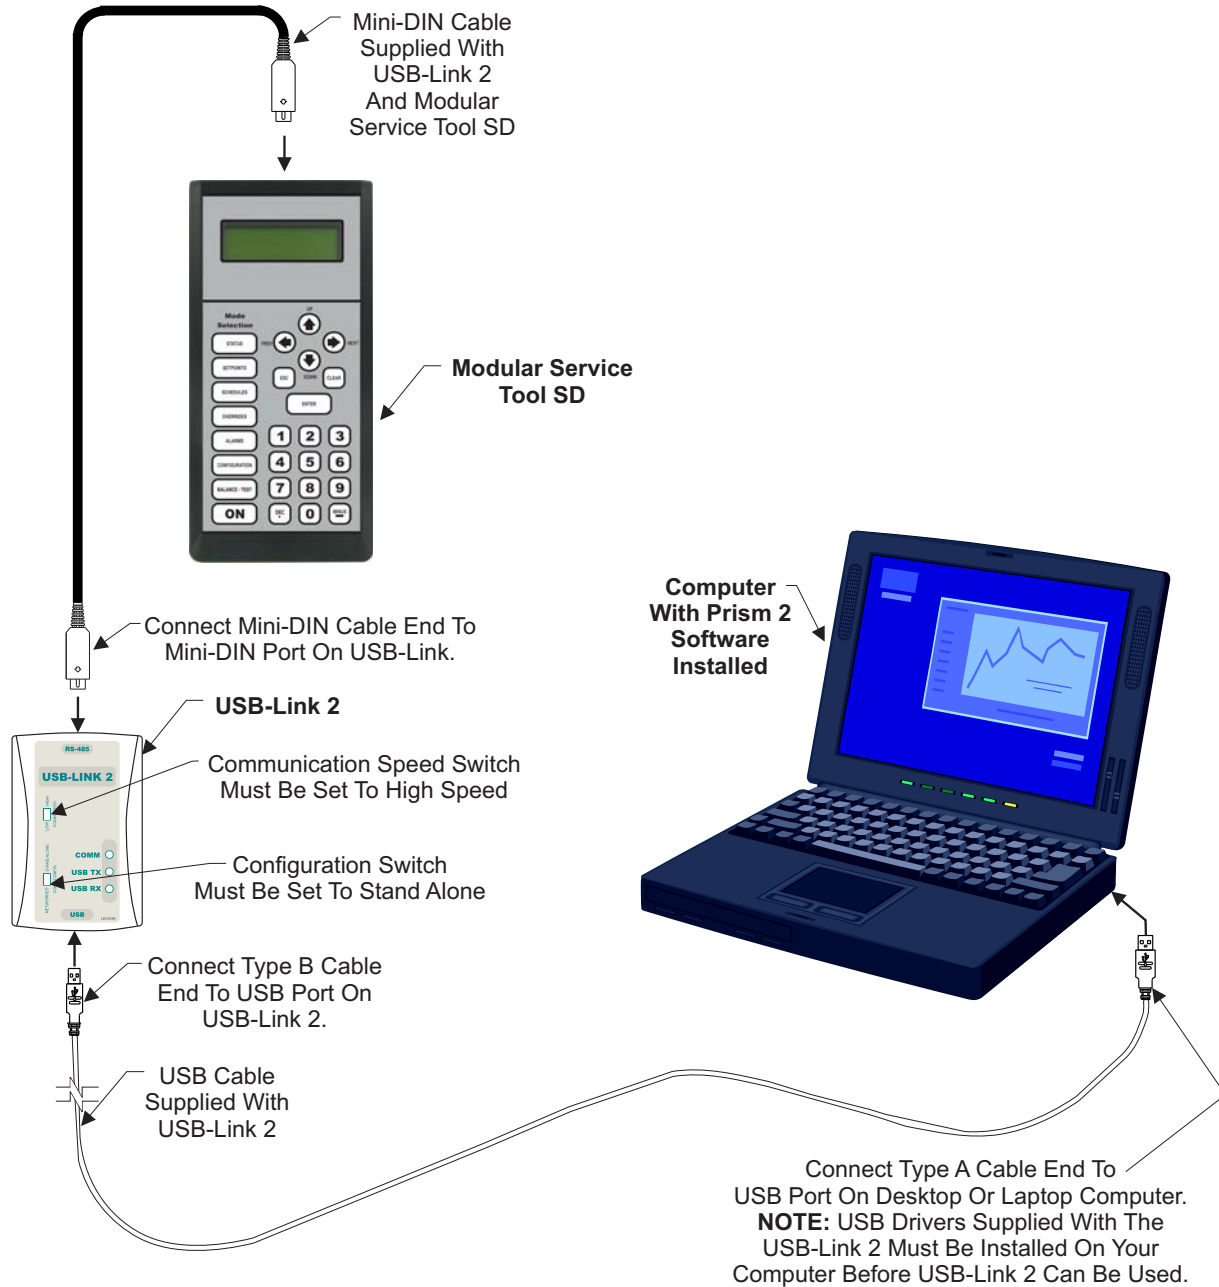

Figure 1: Modular Service Tool SD With USB-Link 2 Connection
4. Plug the DIN communication cable into the Service Tool's communication port and then into the CommLink 5 or USB-Link 2 and then connect the USB-Link 2 or CommLink 5 to the computer's USB port. Make sure the USB-Link 2 and Service Tool SD are set to High Speed and Stand-Alone. To connect the Service Tool to the CommLink 5, you will need to use the adapter that was supplied with your Service Tool. See **Figures 1 & 2, pages 6-7**.